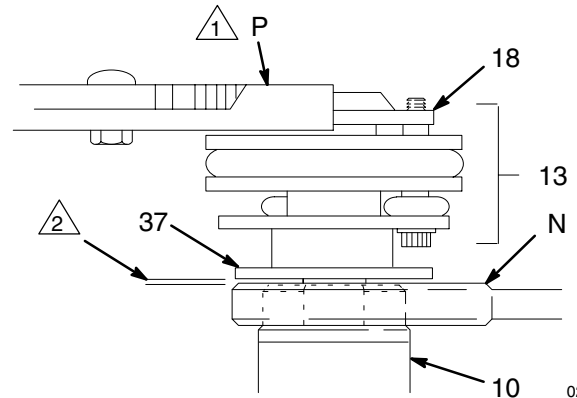

Fig. 6
1. Remove the shield capscrew (28) and the shield (56).
2. Unscrew the air cap (11) from the air cylinder (47). To remove the spring (35), gently pry under the coils in the direction of the helix. Check the spring and gasket (60) and replace as necessary.
3. Unscrew the air cylinder (47) from the base.
4. Hold the air exhaust plate (18) with a pliers (P) and the flats of the air piston rod (10) with a wrench (N), and unscrew the piston and valve assembly (13). See Fig. 6. Remove the washer (37) and spring (36).
7. When reassembling, apply locking compound to the threads of the screws and torque to 10–14 in-lb (1.1–1.6 N.m). With the washer (37) in place, apply thread sealant to the threads of the piston. Carefully screw the piston (11) onto the shaft (23) by hand so it is securely fastened. **Do not use a pliers on the air exhaust plate while tightening.** When installed, there should be a 0.8 mm (0.032 in.) minimum clearance between the washer (37) and the piston shaft shoulder. See Fig. 6.